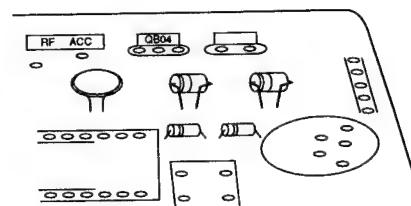

Fig. 5-6-3
5. Mount the replacement part so that it does not touch any other parts. (Fig. 5-6-3)